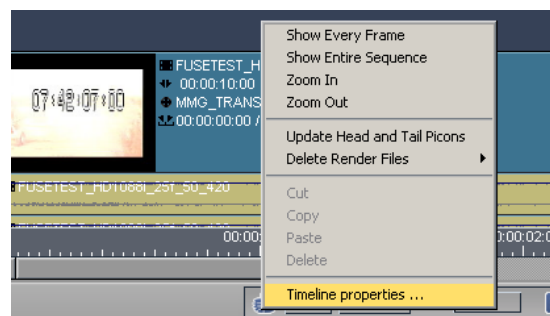

Figure 3-34: Timeline Properties Menu
To setup a Codec Preset right click a empty space of the timeline and select Timeline properties... from the drop-down menu (see Figure 3-34 on page 35).
1. To setup a Codec Preset right click a empty space of the timeline and select Timeline properties... from the drop-down menu (see Figure 3-34 on page 35).